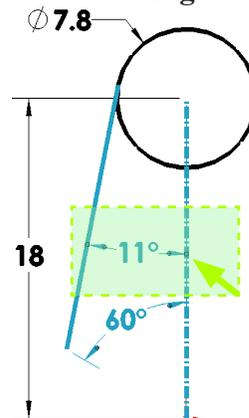

Fig. 6
Step 12. **Ctrl drag a selection to left to select centerline and line**, **Fig. 6**.